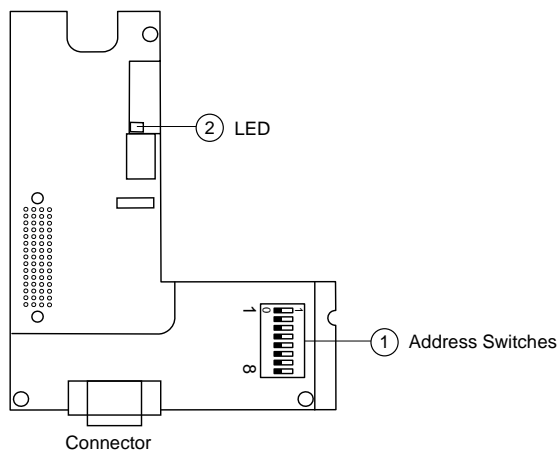

Figure 3: Card Layout
The MODBUS PLUS option card has one LED (see ② in Figure 3 on page 12). For LED operation, see Table 9 on page 37. For operation of the controller status indicators, see the Installation Guide, VVDED397048US.